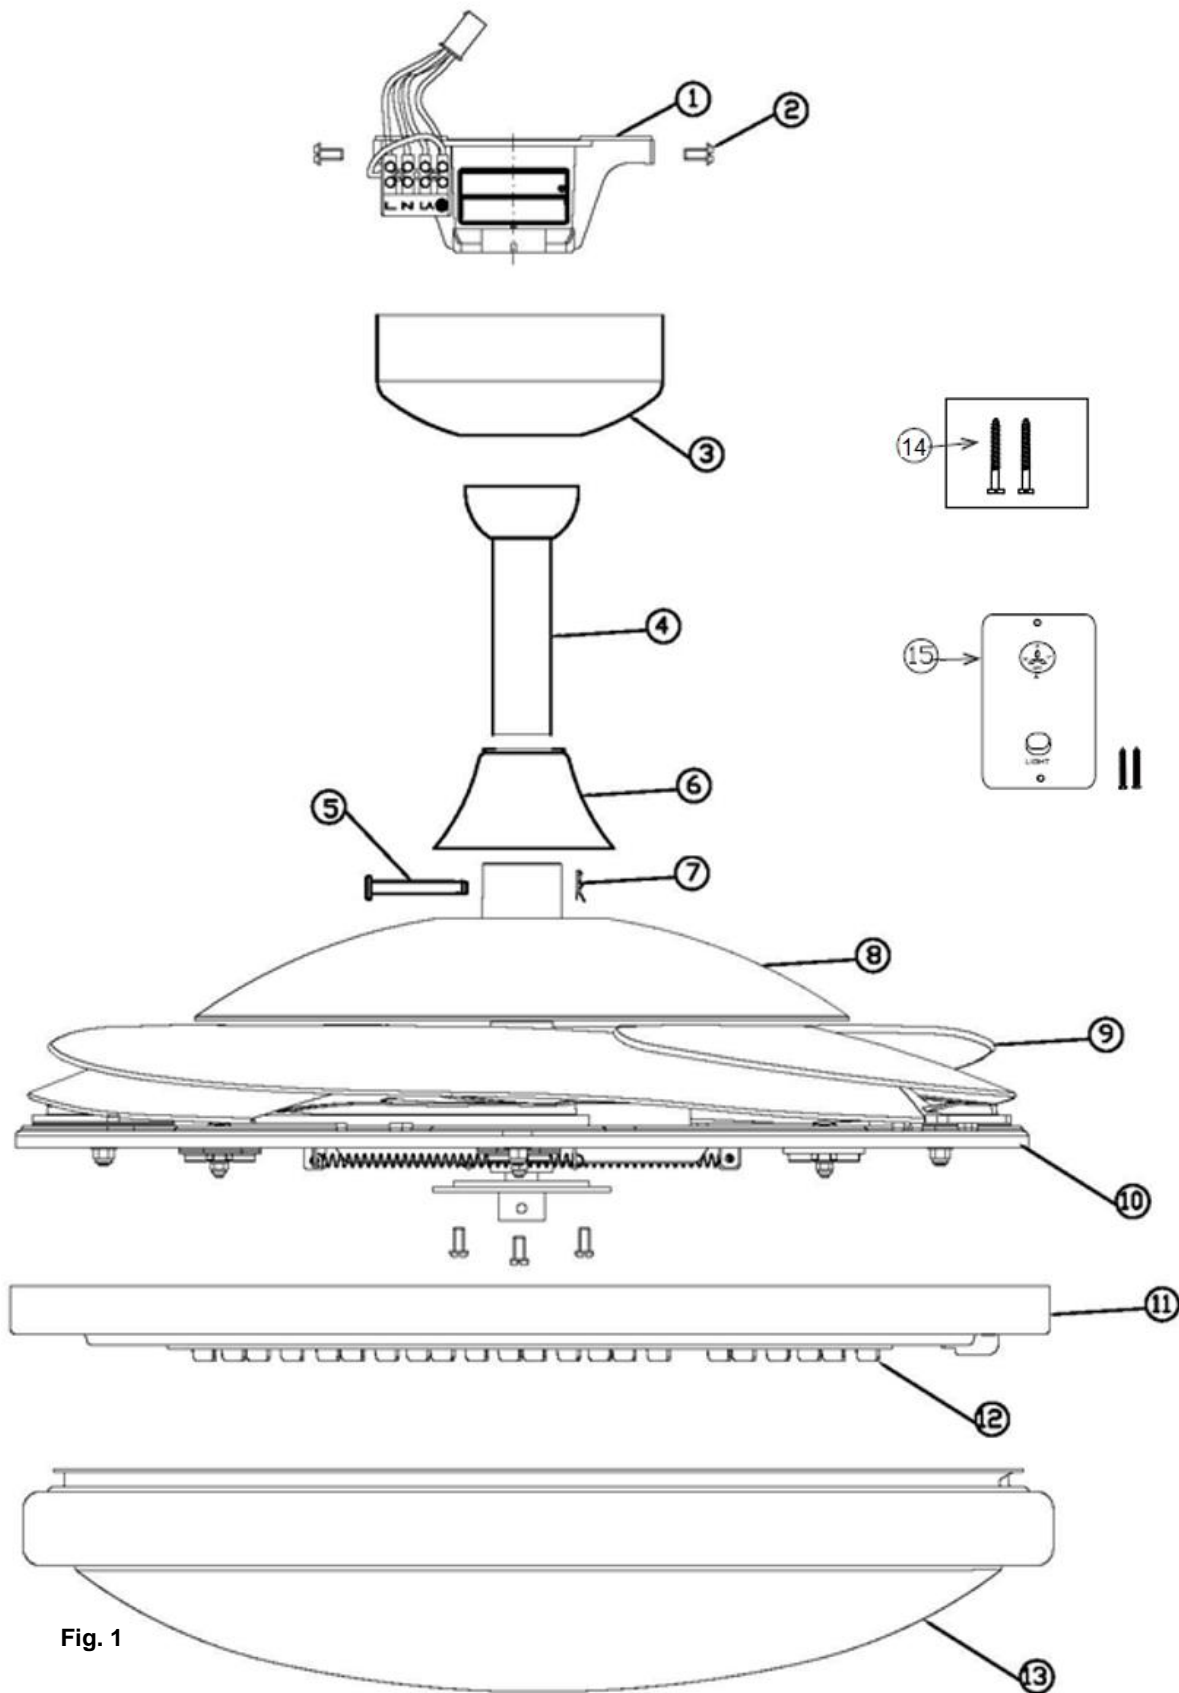

Fig. 1
Unpack the fan and carefully identify the parts. Please refer to Fig 1.
- 8) Finally install the lamp shade to the lamp base by turning it clockwise (No.13 – Fig. 1).